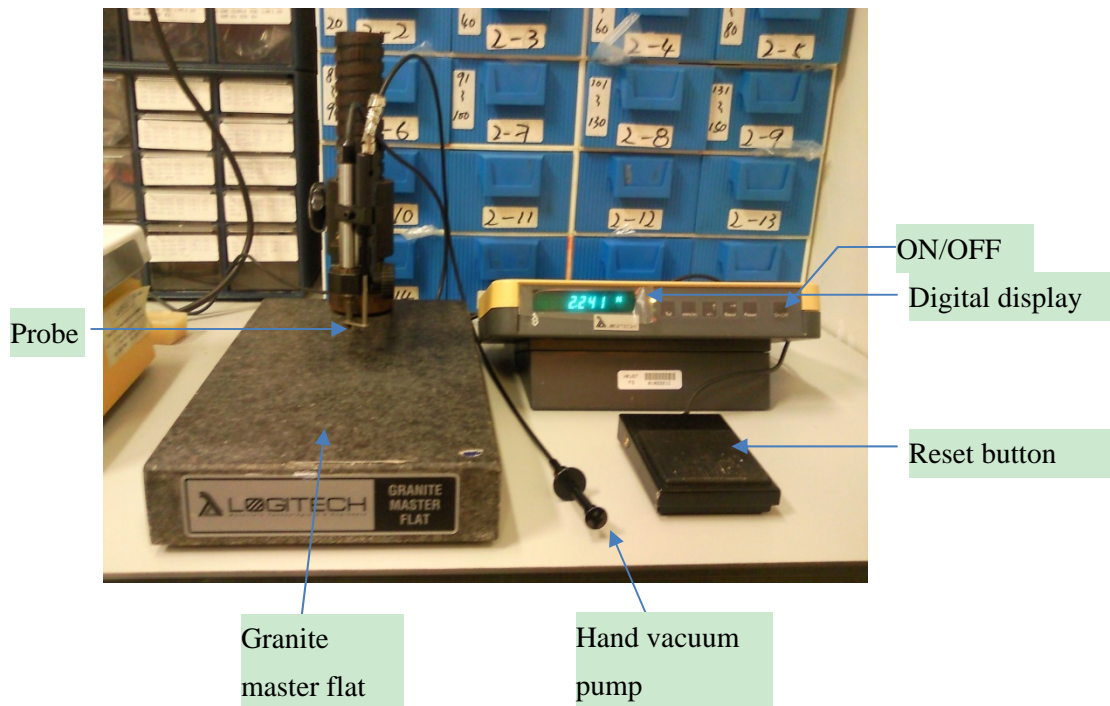

Fig. 8
9) Measure the thickness or flatness using dial gauge, shown in Fig. 8.